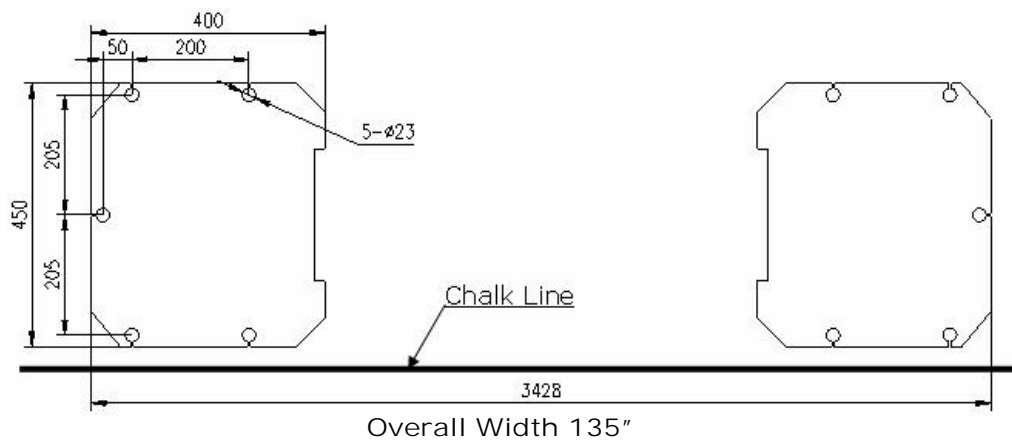

Fig. 4
B. Use a carpenter's chalk line to establish installation layout of base plate (See Fig. 4).